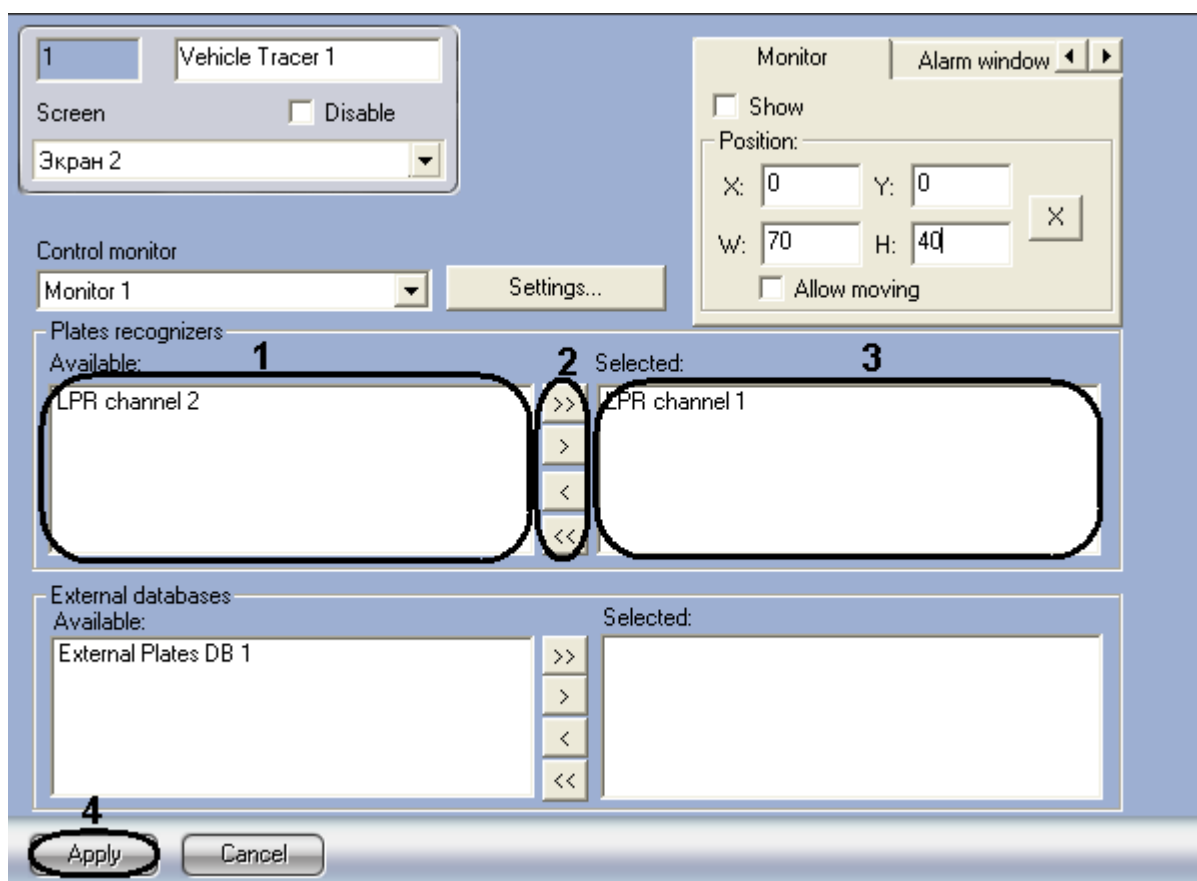

Fig. 7.9—6 LP recognizers servers selection
1. Go to the «Vehicle tracer» settings panel (Fig. 7.9—6).
2. Select the required LP recognition servers from the list Available of the Plates recognizers group (Fig. 7.9—6, 1).
3. Move the selected LP recognizers servers to the list Selected of the Plates recognizers group, clicking the «» button (or «» button for moving all the LP recognizers servers from the list) (Fig. 7.9—6, 2-3).